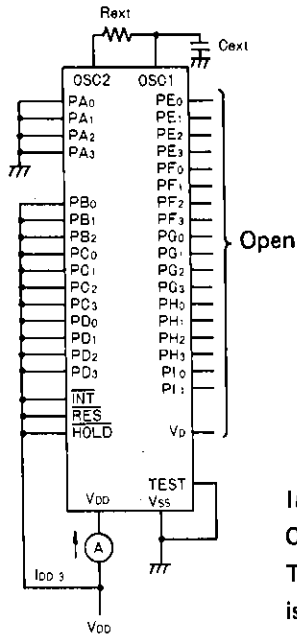

Fig. 4 IDD(3) Test Circuit
| | I _{DD} (3) | HALT mode, V _{DD} =4.0 to 6.0V, at test circuit in Fig. 4 | | | 10 | μA |